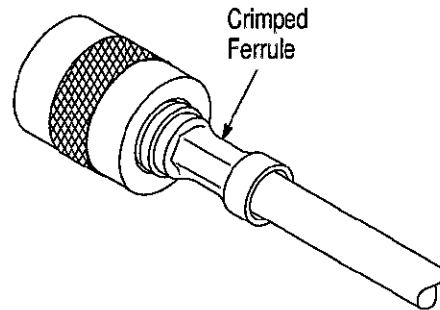

Figure 5
5. Insert center contact into plug body. The cable braid must be positioned over the plug body support sleeve. See Figure 5, Detail A.
6. Slide ferrule forward over cable braid and support sleeve until it is positioned against the shoulder of the plug body. See Figure 5, Detail B.
7. Crimp the ferrule using the recommended frame assembly fitted with appropriate die assembly. See Figure 5, Detail C.